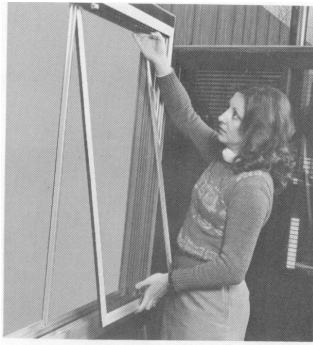

Figure 5
9. Pull the bottom of the screen (4) to the inside to clear the bottom of the frame (Figure 5), lower to remove and lean the screen against the previously removed sashes.